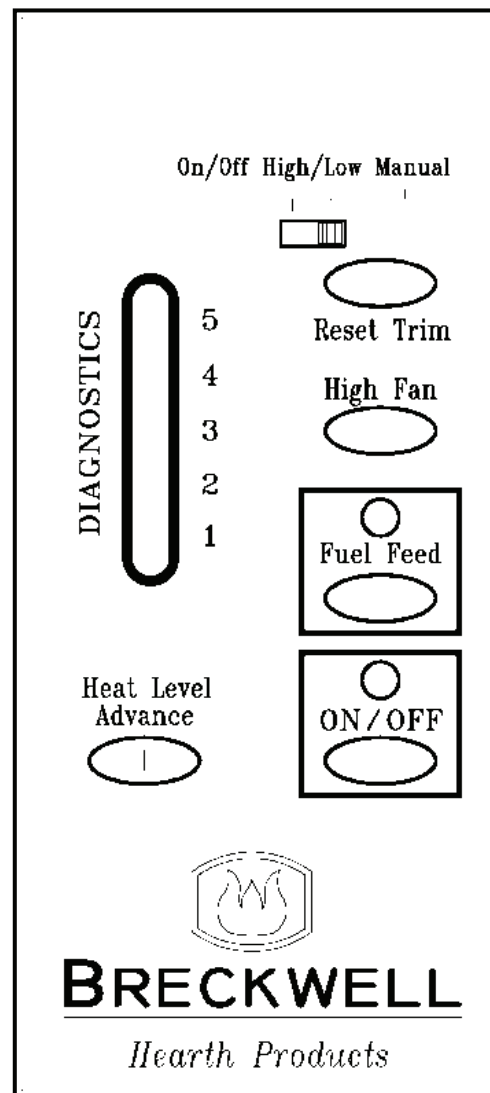

FIGURE 19
## PANEL CONTROLS (SEE FIGURE 19)
- The green light located above the On/Off button (in the On/Off box) will flash during the ignition start-up period. (See figure 19)
- While the stove’s auger system is feeding pellets the green light (in the “Fuel Feed” box) will be illuminated. (See figure 19)